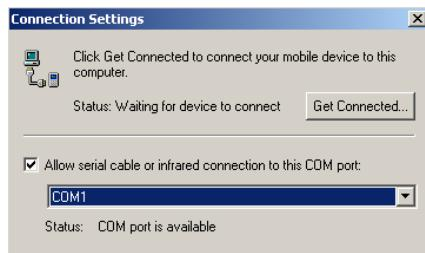

Figure 2-13. Click Get Connected
3. On the Connection Settings dialog box (Figure 2-13), set the following parameter.